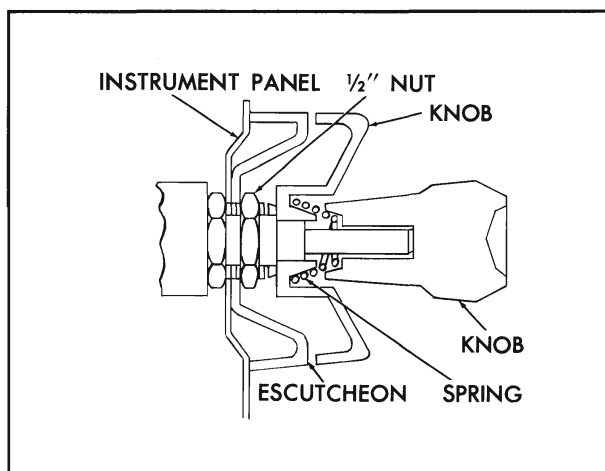

Fig. 12-1 Radio Knob Assembly
3. Remove retaining nuts and escutcheon (Fig. 12-1).
5. Install escutcheon and retaining nuts (Fig. 12-1).